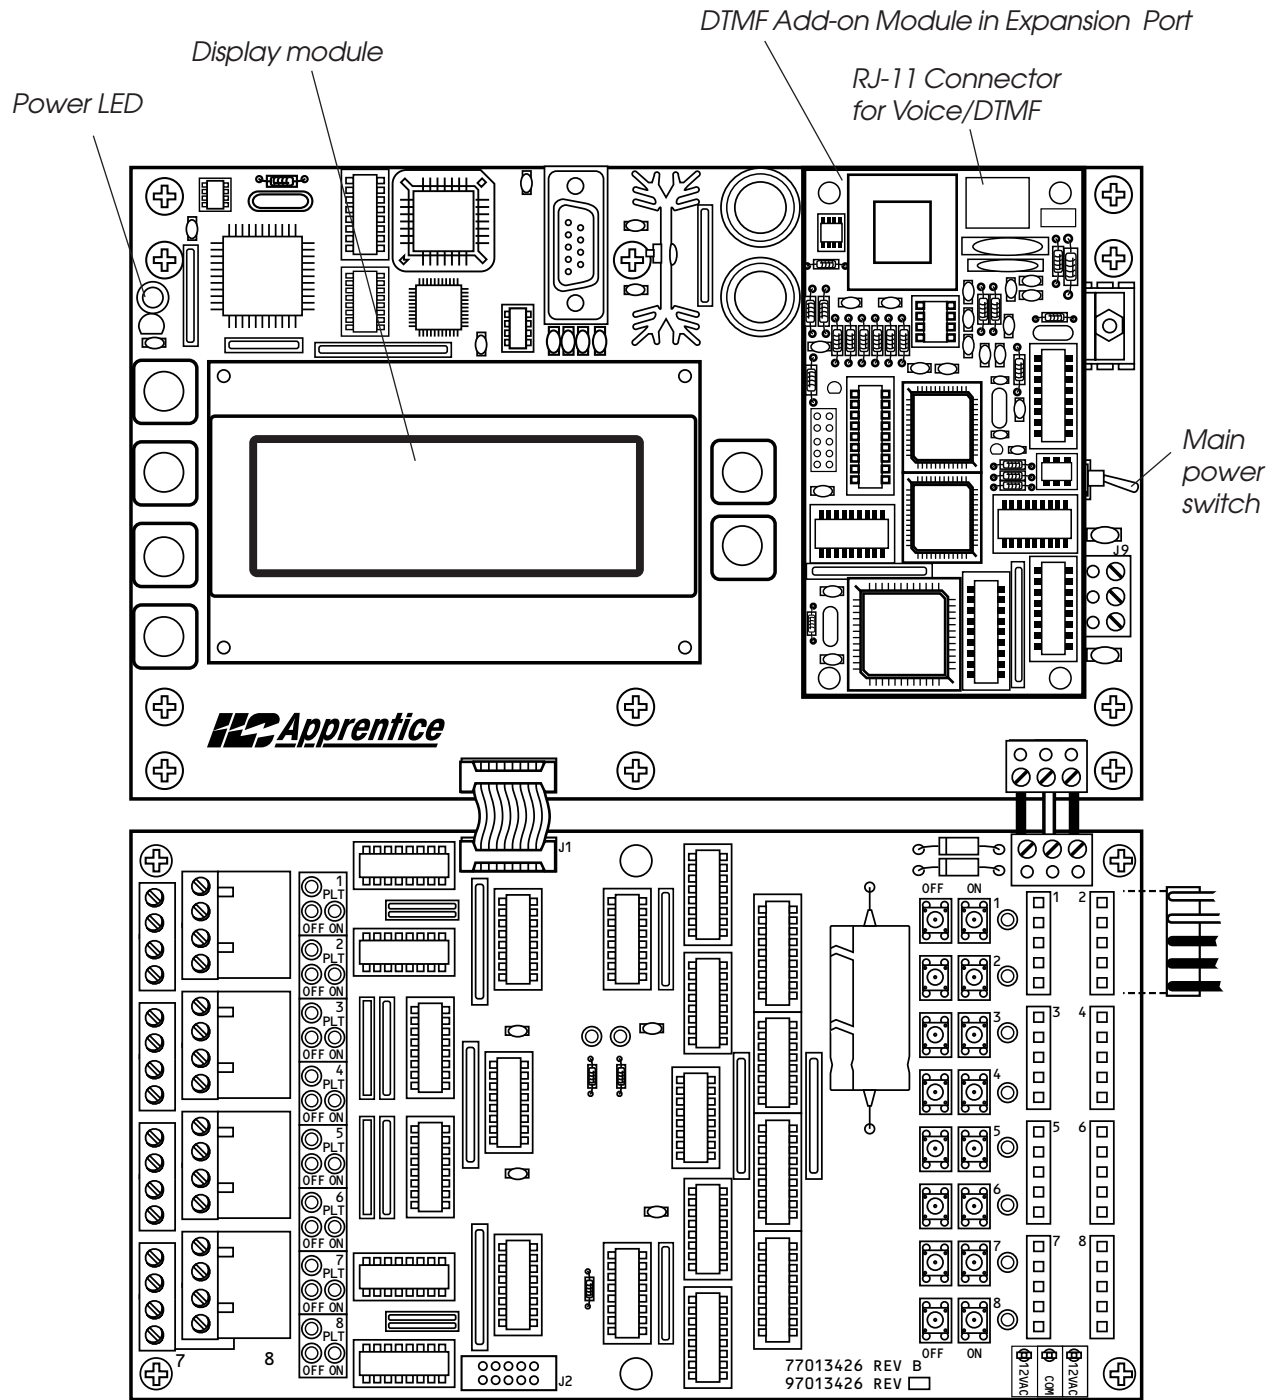

Figure A.2 – Voice/DTMF Module Installation
The telephone Add-On Module is an optional board that is easily added to the ILC Apprentice controller. This module supports dual-tone multi-frequency (DTMF) touchtone telephone control and monitoring. The module plugs into the expansion port provided on the ILC Apprentice controller CPU board. (See Figure A-2.)
1. The ILC Apprentice must be equipped with a Voice/DTMF Add-On Module. Locate the card on the controller's processor board. (See Figure A.2.)